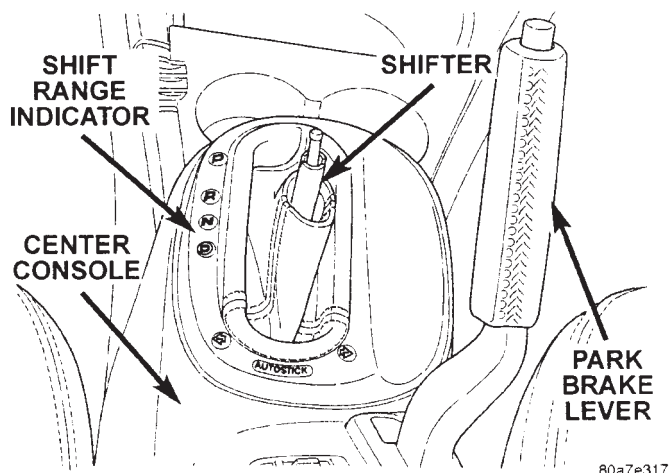

**Fig. 122 Shift Range Indicator**
the center console using retaining clips. It is removed by carefully prying it off the center console. The shift range indicator covers the 2 screws attaching the center console to the shifter mechanism. (Fig. 122).
(13) Install the transmission range indicator (Fig. 122) in the center console.